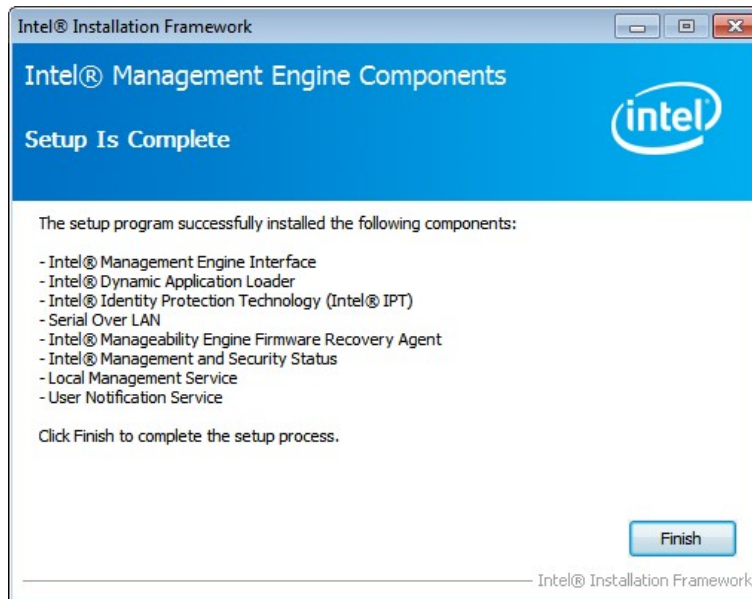

Figure 6-31: Intel® ME Driver Installation Finish Screen
Step 11: The Finish screen in Figure 6-31 appears.